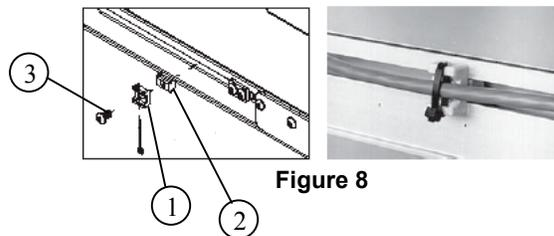

Figure 8
2. To route cable over a previously mounted component or to anchor the cable use the mounting cable ties (Figure 8, item 1) and single drop-in t-bars (Figure 8, item 2). Secure with screws (Figure 8, item 3).